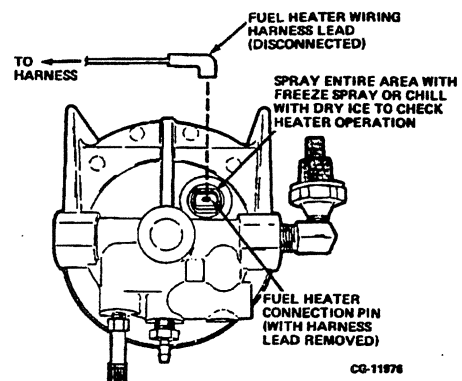

Figure 9.10. Fuel Heater Lead Location for Diagnostic Testing
**PROCEDURE:** (Refer to Figure 9.10)